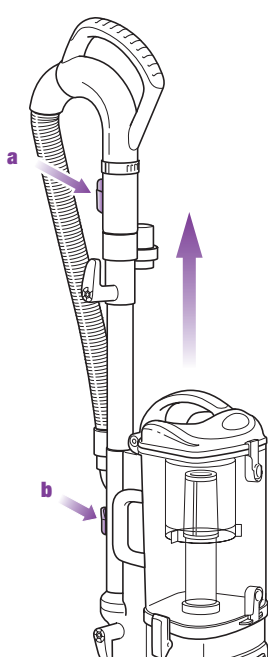

Fig. 16
- 2 Press the handle release button (a) and pull the handle up or press the extension wand release button (b) and pull the extension wand up. (Fig. 16)
- 1 Press the extension wand release button and pull the extension wand up. (Refer to page 10, Fig. 16-b)